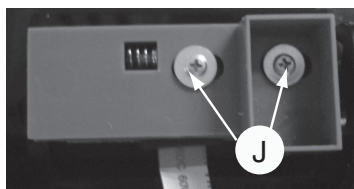

Figure 11
- 1) Loosen 2 screws "J" and loosen 2 screws "K" to remove IPOD board as shown in figure 11 & 12.